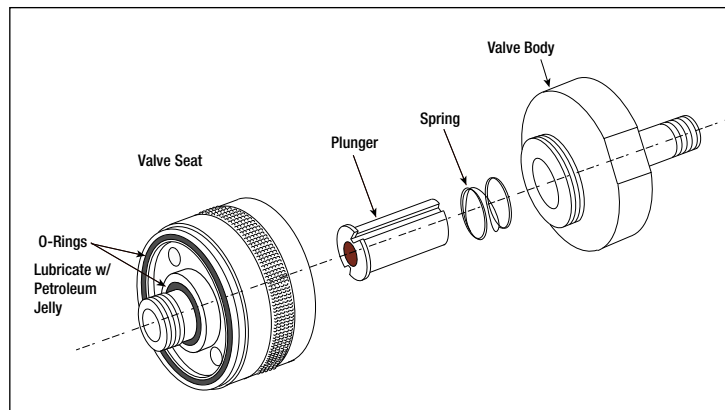

Figure 14. Outlet Valve Assembly Components
- Separate the assembly components, remove any debris and wipe the parts clean (see Figure 14).